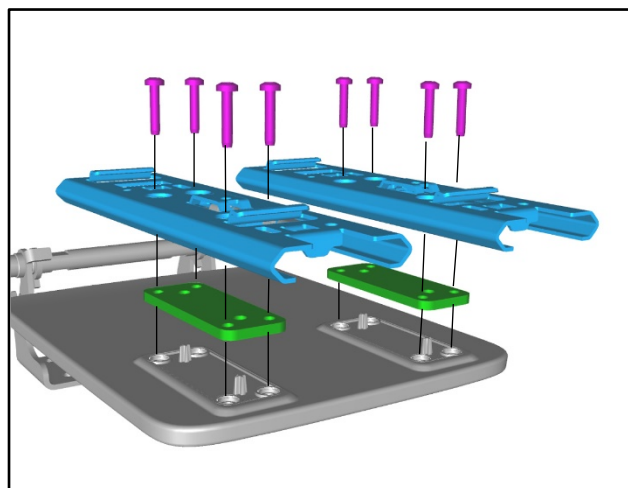

Figure 17
11. Remove the eight bolts and remove the rails and spacer blocks (refer to Figure 17).